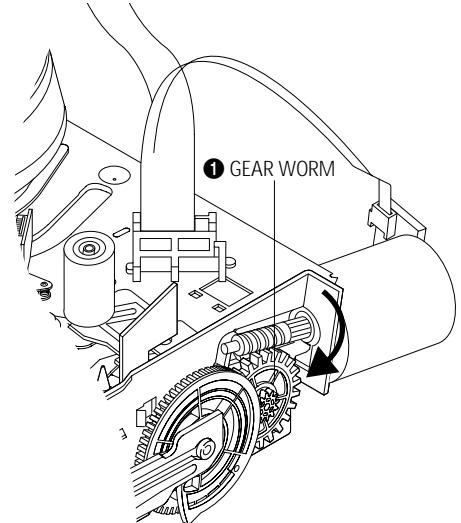

Fig. 4-39
3) Rotate Gear Worm ① clockwise using screw driver again up to the state of eject mode and then pick out the tape.(Refer to Fig.4-39)